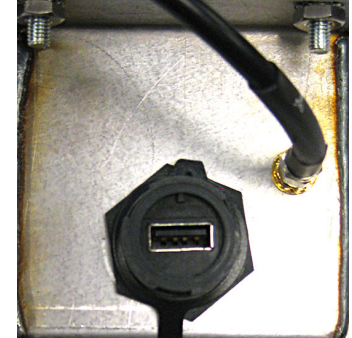

Figure 5
8. Unscrew the USB port cover (see Figure 5).
- Unscrew the USB port cover (see Figure 5).
- Unscrew the USB port cover (see Figure 5)